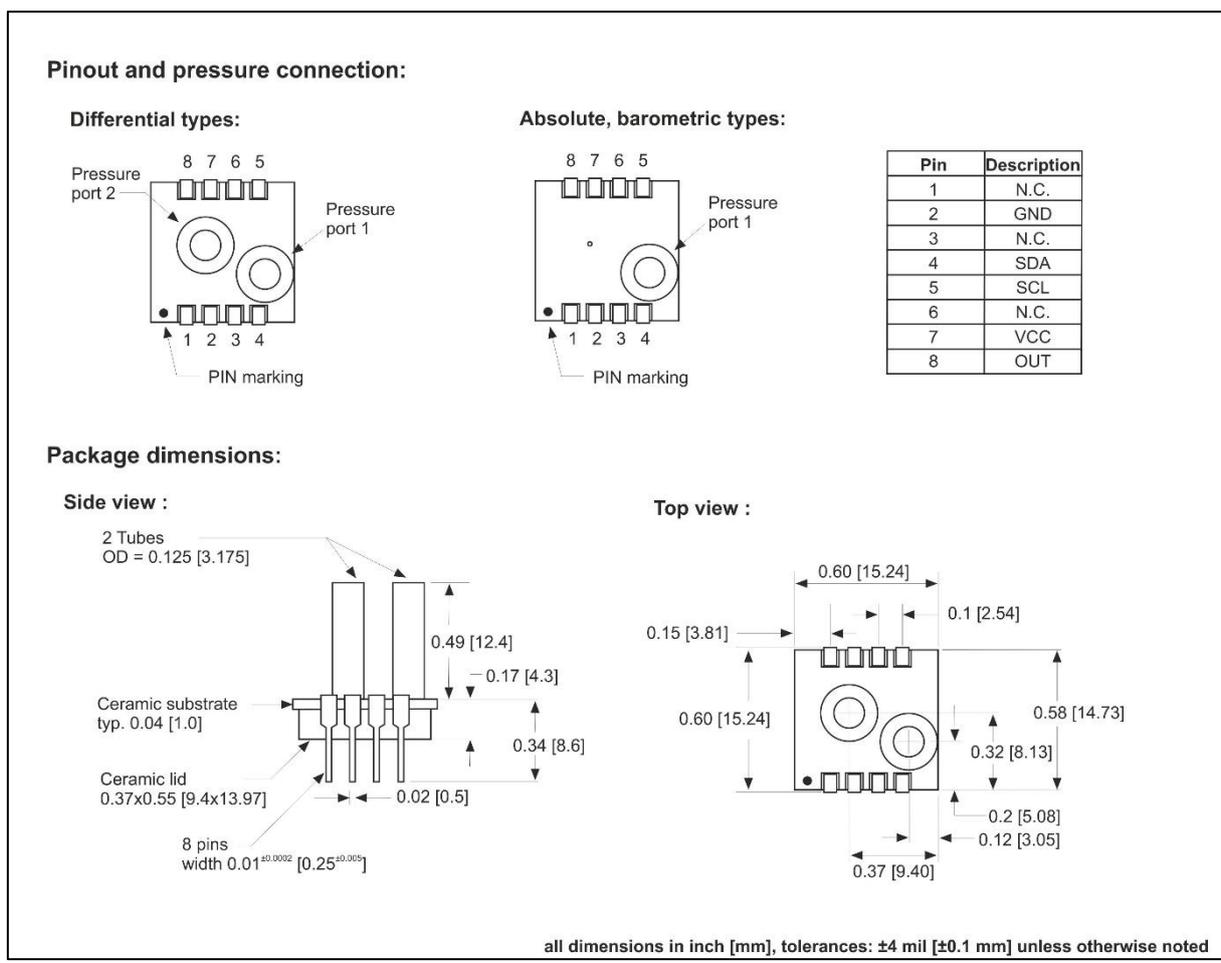

Figure 5: Dimensions and pinout for AMS 5812's standard package with vertical metal tubes
- 5) Total accuracy is defined as the maximum deviation of the measurement value from the ideal characteristic curve at room temperature (RT) in %FSO including the adjustment error (offset and span), nonlinearity, pressure hysteresis and repeatability. Nonlinearity is the measured deviation from the best fit straight line (BFSL) across the entire pressure range. Pressure hysteresis is the maximum deviation of the output value at any pressure within the specified range when this pressure is cycled to and from the minimum or maximum rated pressure. Repeatability is the maximum deviation of the output value at any pressure within the specified range after 10 pressure cycles.
- 8) Media compatibility of pressure port 1 (for a description of port 1, see *Figure 5* and *Figure 6*): clean, dry gases, non-corrosive to silicon, RTV silicone rubber, gold, nickel-plated steel (alkaline or acidic liquids can destroy the sensor).
- 9) Media compatibility of pressure port 2 (for a description of port 2, see *Figure 5* and *Figure 6*): fluids and gases non-corrosive to silicon, Pyrex, RTV silicone rubber, nickel-plated steel.
wherein p₁ = pressure at port 1 and p₂ = pressure at port 2, for port declaration see *Figure 5* and *Figure 6*. The media compatibility of pressure port 1 and port 2 can be found in "Specification notes", 7 and 8.
The pinout and dimensions of AMS 5812's dual-in-line package are shown in *Figure 5* for sensor types with vertical metal tubes (for connection with pressure hoses) and in *Figure 6* for sensor types for manifold assembly (-N option without tubes).
Notes on “Dimensions and Pinout” (Figure 5 and Figure 6):